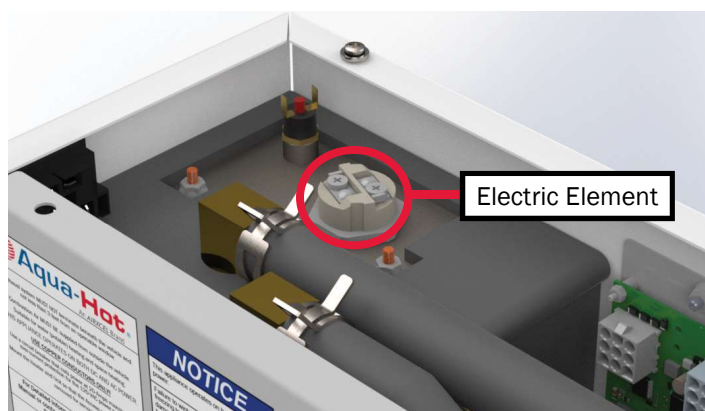

Figure 65
5. Remove the two wires secured to the defective electric heating element by releasing the screw terminals (Figure 65).